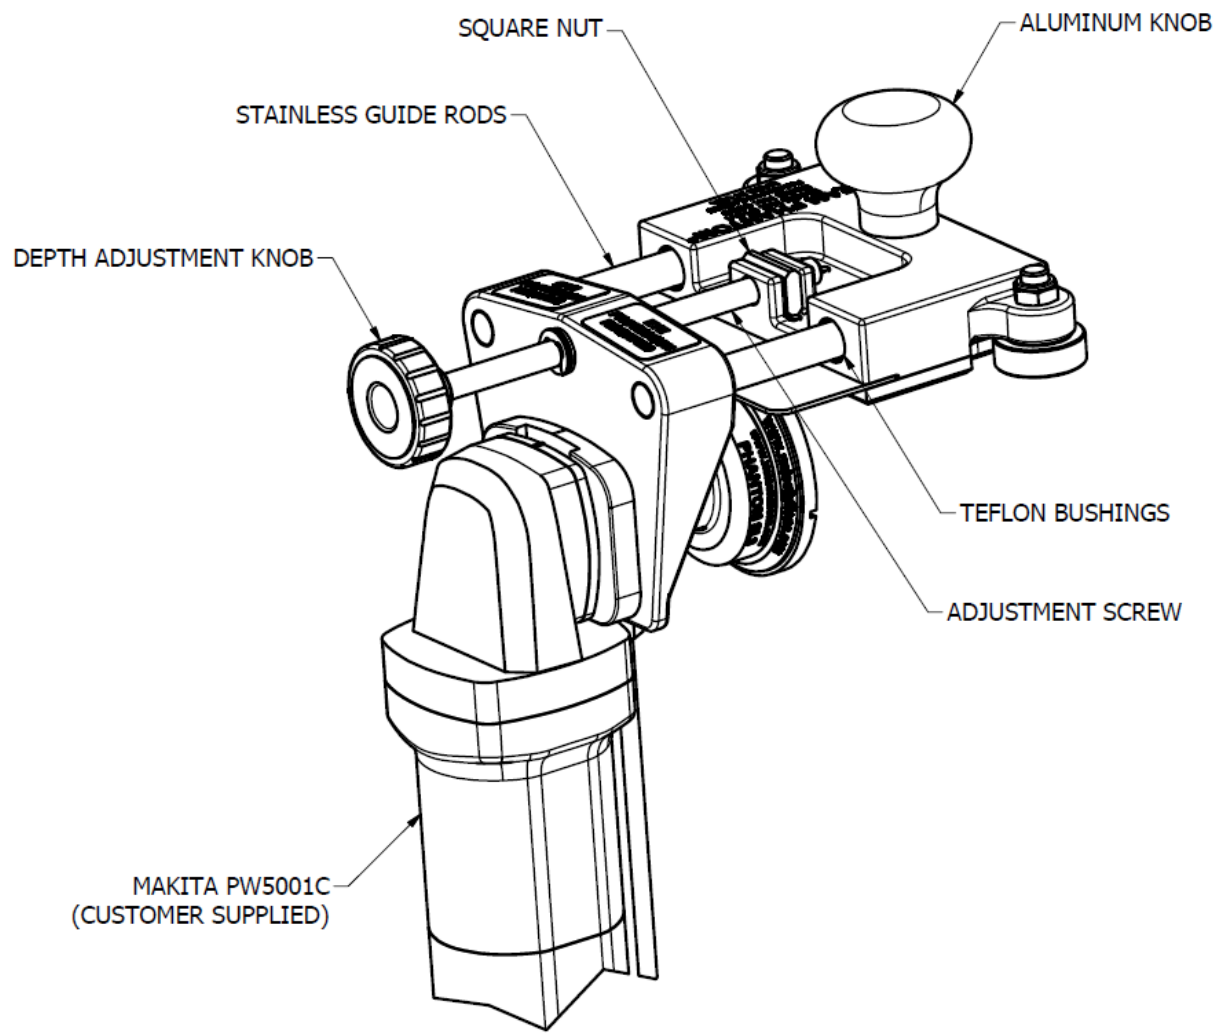

FIGURE 6 - Cleaning
2. **Cleaning Guide Rods and Bushings** - After heavy use, the in and out adjustment of the Seam Phantom® may become “stiff”. Performing the following steps should correct this. See Figure 6 below.